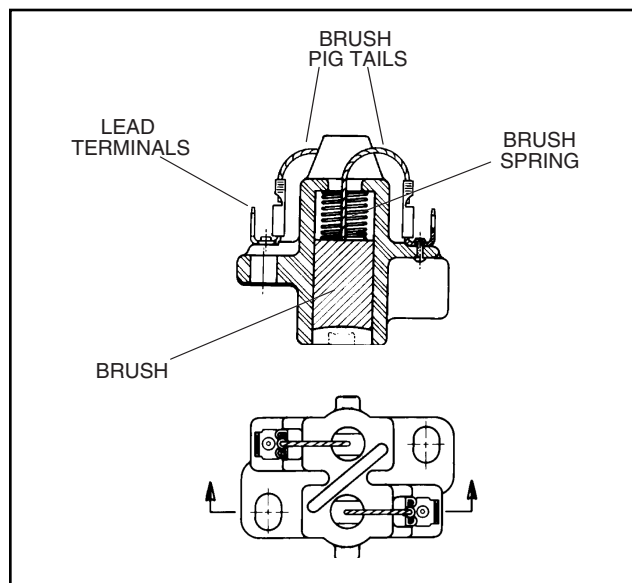

FIGURE 7-3 BRUSH BLOCK ASSEMBLY
new parts. Connect each brush pigtail to the terminal on its side of the insulating divide (Figure 7-3).
5. Disconnect leads F1 and F2 from the brush block terminals (Figure 7-3).
- A. Remove the brush block assembly by disconnecting the leads marked **F1** and **F2** from the brush block terminals (Figure 7-3) and then removing the two mounting screws, **or**